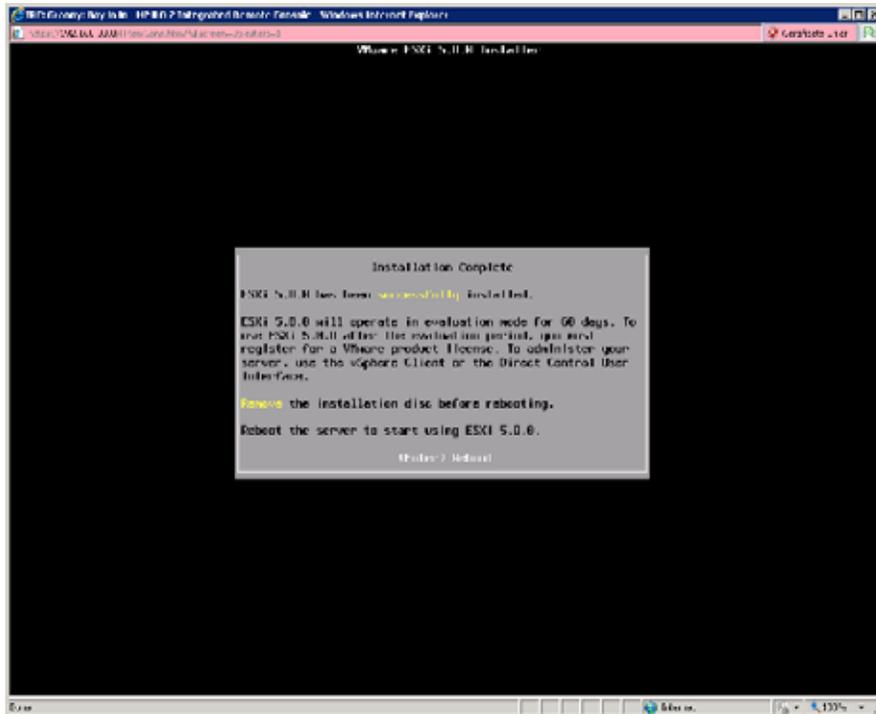

Figure 12 Finalizing the Install
Step 11 When the OS and host drivers are loaded onto the ESXi 5.0 Server, you are prompted to finalize the installation, as shown in figure Figure 12 on page 86.